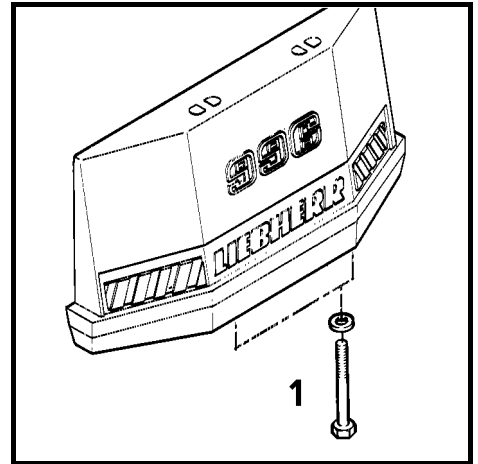

Fig. 48
The mounting bolts M64 Fig. 48, pos. 1) must be torqued to 17500 Nm (12900 ft.lbs).